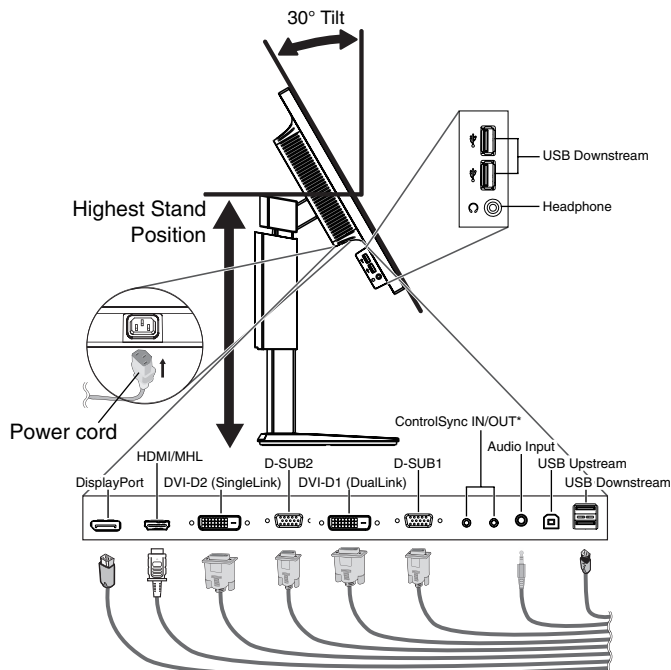

Figure C.1
- Connect all cables to the appropriate connectors (**Figure C.1**). When using the USB cable, connect the B type connector to the USB upstream port on the right back side of the monitor and the A type connector to the downstream port on the computer (**Figure C.1a**). If using the cord from a USB device, plug into one of the downstream ports of the monitor.